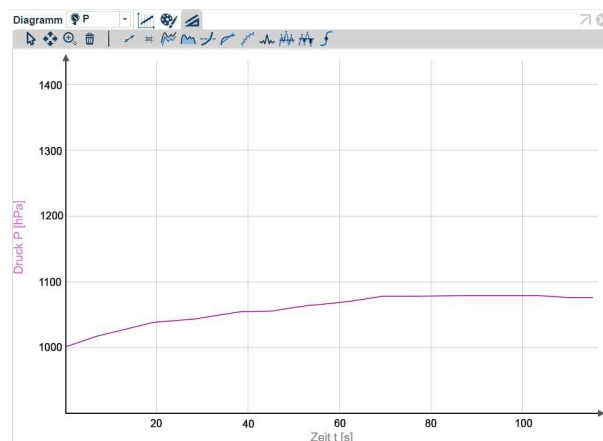

Fig. 5: Measurement result (base)
- **Experiment 1:** During the first experiment, the pressure curve rises drastically (Fig. 5). (In the course of the measurement, the curve suddenly drops perpendicularly, which is due to the fact that the rubber stopper was pushed out of the Erlenmeyer flask.)